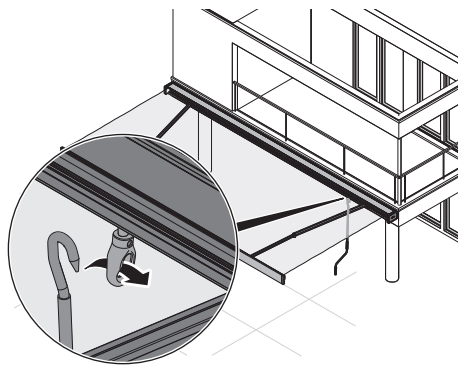

Fig. 20: Inserting the manual crank
1. Insert the manual crank in the crank slot (fig. 20).